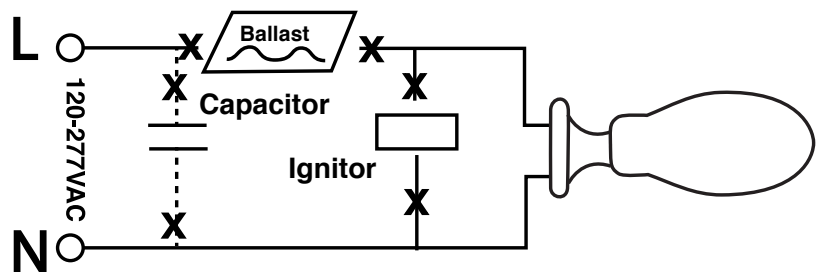

Fig 1
- 2 As shown in *Figure 1*; Remove the old Ballast, Capacitor and Ignitor (if existing).